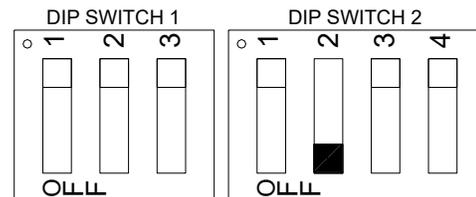

Figure 2
- This mode can be selected by DIP switch #2-2 (Figure 2)